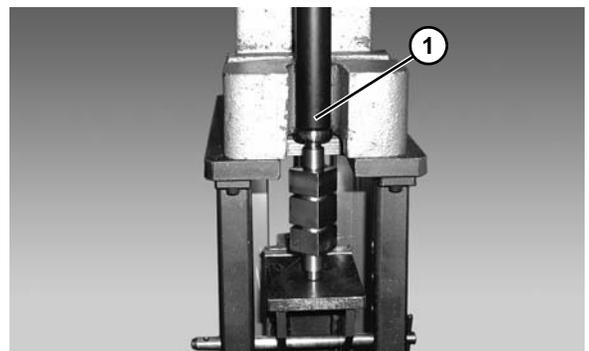

Figure 72
4. Press new bearing onto drive pulley using installation tool 450293 (**Figure 72, item 1**).